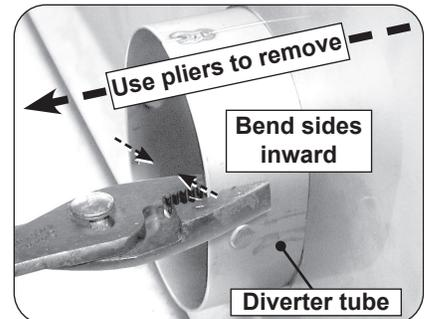
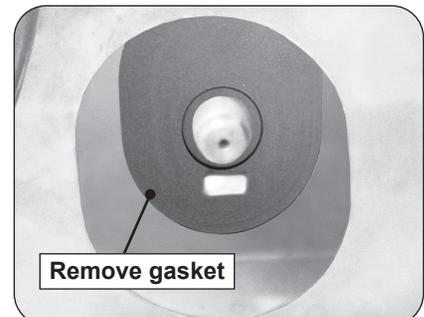

Fig. 2-3 Remove diverter tube
Fig. 2-4 Remove silicone gasket
7. **The grill is equipped with a flame arrester kit for each main burner. This kit is only functional with the standard main burner and must be removed for proper infrared burner operation.** Use pliers to remove the diverter tube by bending in each side and pulling it outwards (see Fig. 2-3), then reach in and remove the silicone gasket (see Fig. 2-4).